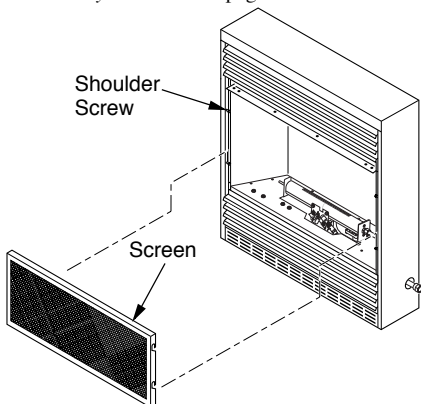

Figure 2 - Removing Screen
1. Remove two screws that hold fireplace screen in place for shipping. These screws are located near top of screen. Discard screws. Lift fireplace screen up and pull out to remove (see Figure 2). Set screen aside until installation has been completed.